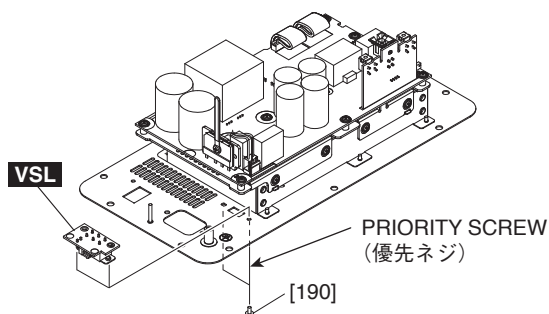

Fig. C-6 (図C-6)
- C-7-3 Remove the two (2) screws marked [190]. The VSL circuit board can then be removed. (Fig. C-6)
- * **When installing the VSL circuit board, first tighten the priority screw as shown in Fig. C-6.**
(図C-6)
- ※ AMPSシートを取り付け時には、図に示す優先ネジを先に締めてください。(図C-6)